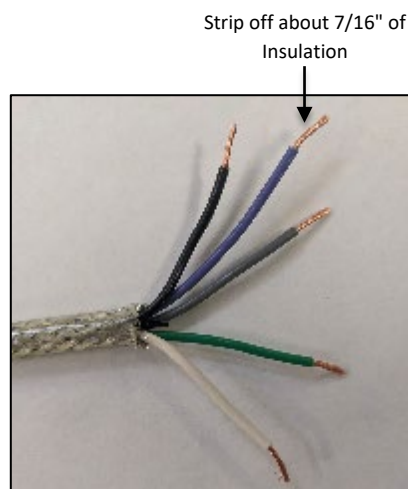
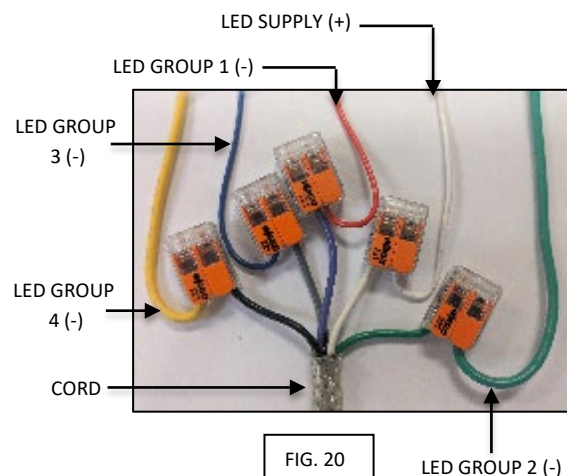

FIG. 19
FIG. 20
2. Strip off about 7/16" of insulation from the inside wires and twist inner strands of each wire together as shown in FIG. 19 below. Connect the cord wires to the wires from the decoder as shown below. The internal cord wires are labeled as shown in the table below as shown in FIG. 20 below.